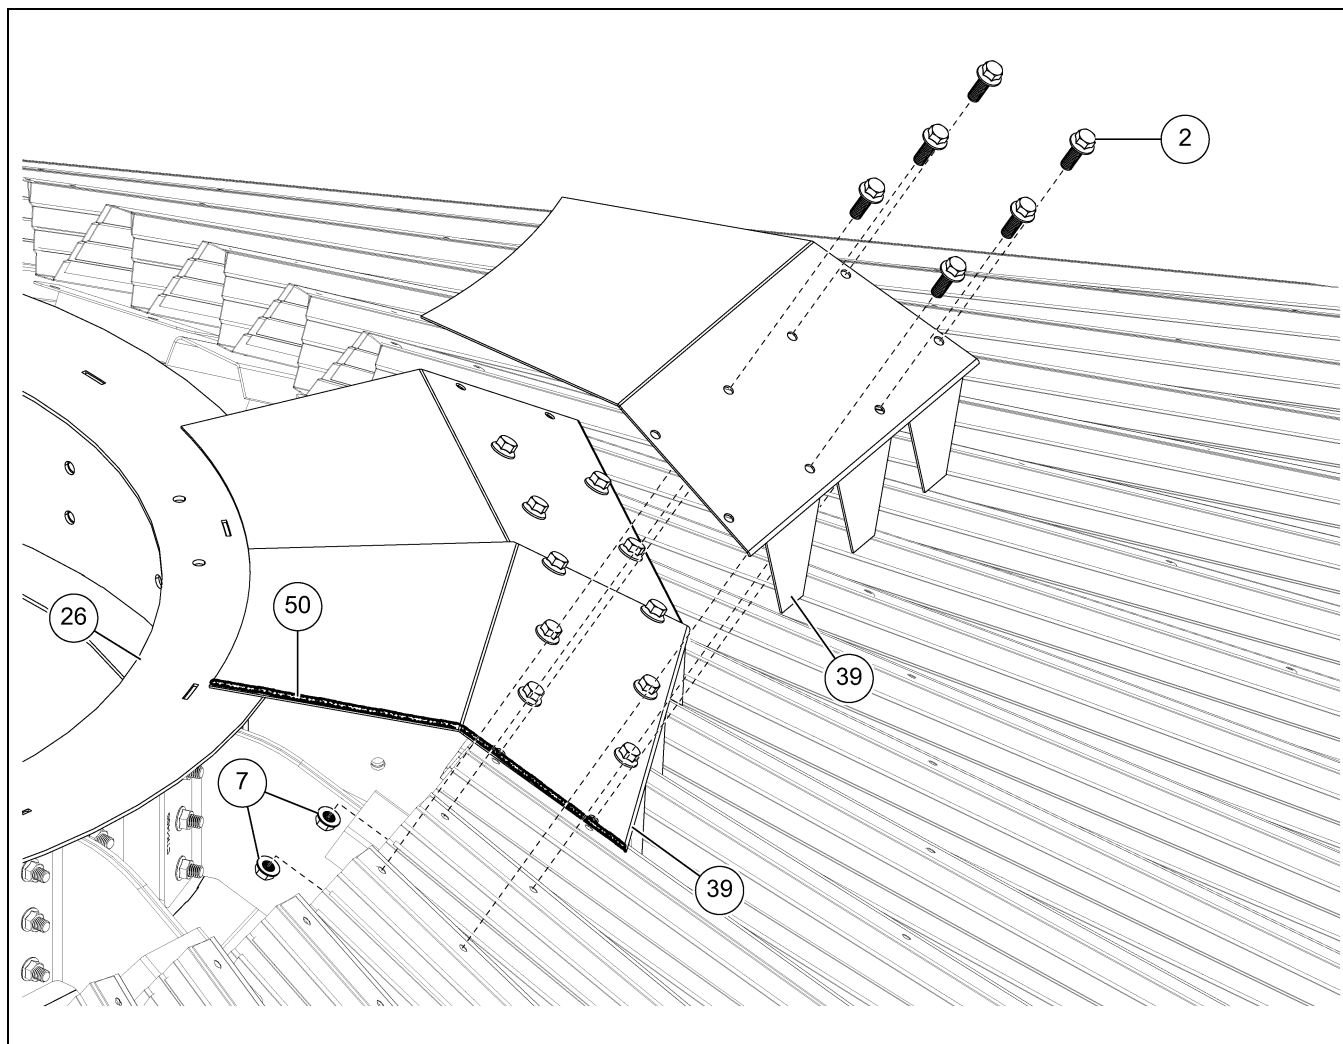

Figure 4Y Installation of Remaining Roof Flashing Sections
6. Install six 5/16" x 1" flange bolts (2) and 5/16" flange nuts (7), securing the roof flashing section (39) to the roof panel ribs.
7. Continue installing the remaining flashing until the gap between the center collar and roof panels are covered. *(See Figure 4Y.)*